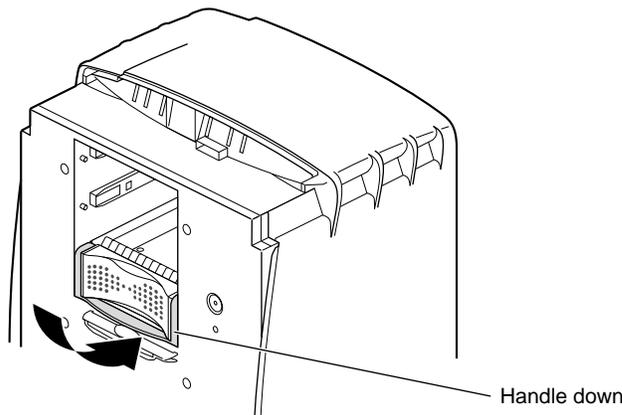

Figure 7-18 Locking the System Drive
5. Rotate the handle down to lock the system drive to the workstation, as shown in Figure 7-18.